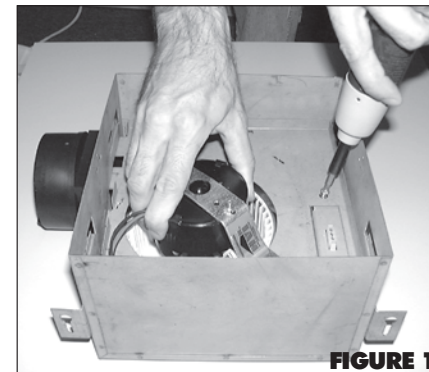

FIGURE 1
1. Remove blower assembly before installing housing. Remove screw from blower assembly then slide assembly sideways and lift out. (Fig. 1)